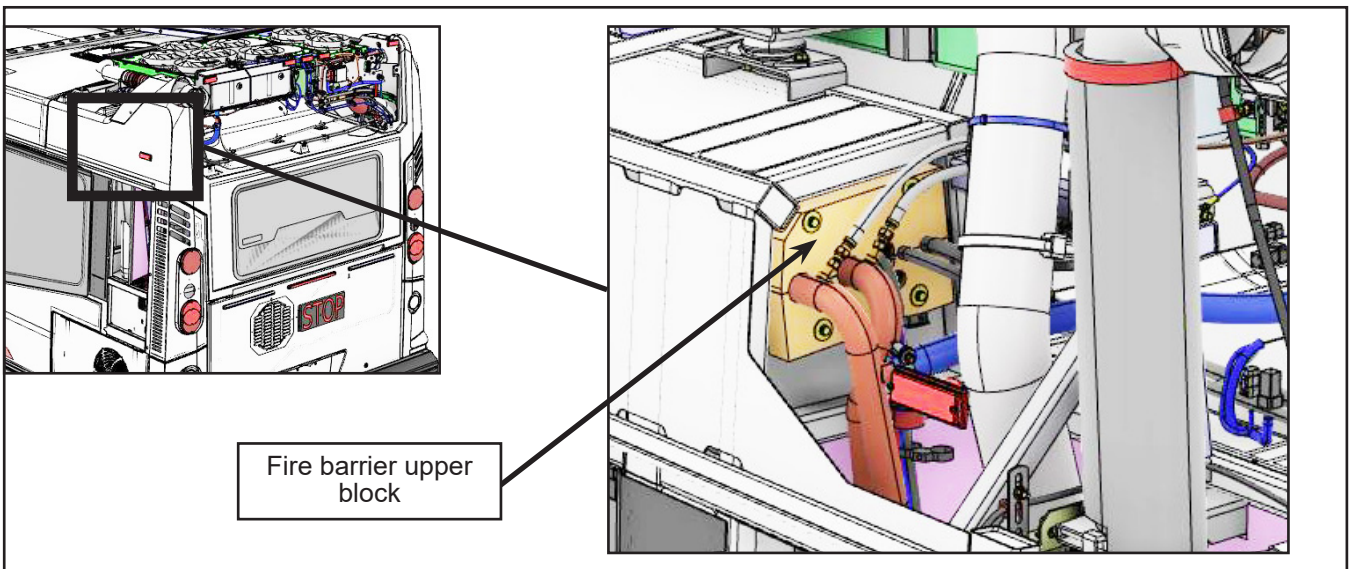
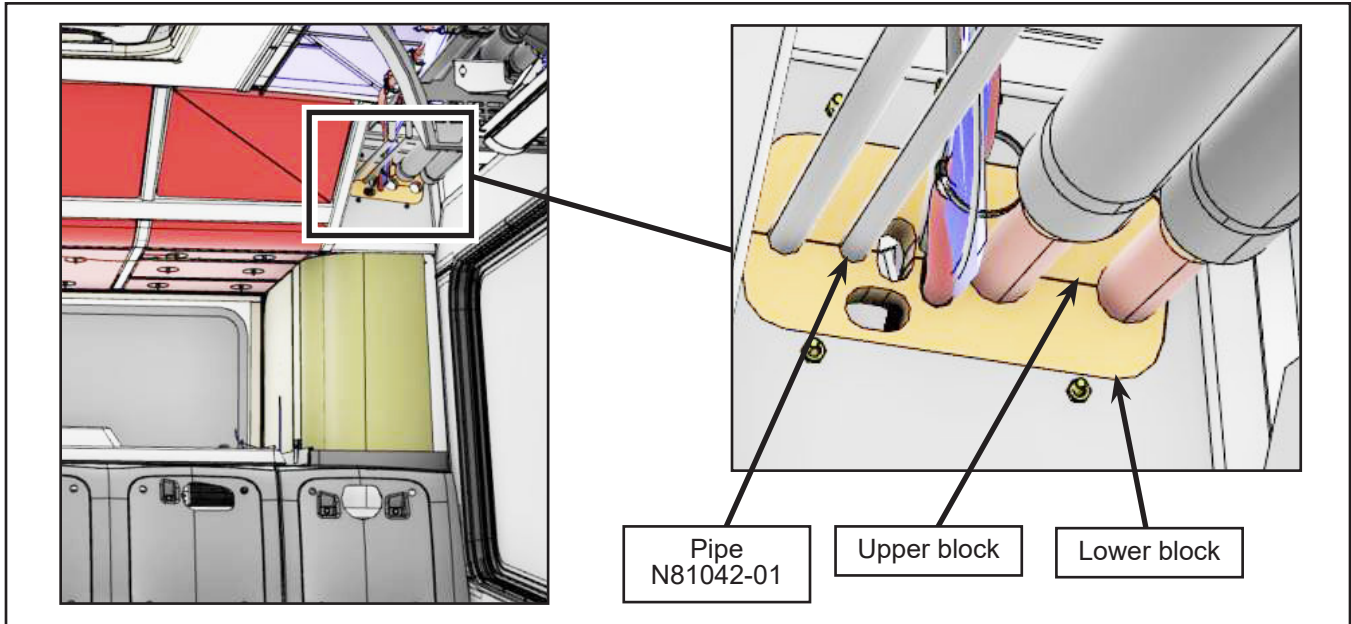

Figure 9 - Fire Barrier Upper Block Location in Radiator Compartment
Figure 10 - Fire Barrier Upper Block Location in the Passenger Compartment
2.2.4. In order to pull out N81042-01, an opening must be done in the fire barrier. Locate the fire barrier between the radiator compartment (Figure 9) and the cabin (Figure 10).